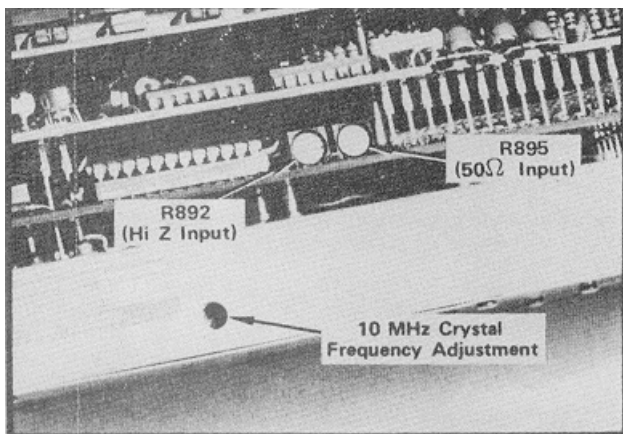

Fig. 4-2. Calibration adjustment locations for the Reference Oscillator and Calibrator.
6. Set the crystal frequency, with the adjustment illustrated in Fig. 4-2, so the calibrator frequency is within specifications.
3. Calibrate the reference oscillator frequency to 10.0000 MHz  $\pm$ 20 Hz with the crystal adjustment illustrated in Fig. 4-2.
- f. Calibrate the output level of the Calibrator to the reference level, by adjusting R892 (Fig. 4-2).
- k. With pin B13 shorted, adjust the calibrator output with R895 (Fig. 4-2) until it equals the reference level of the signal source.